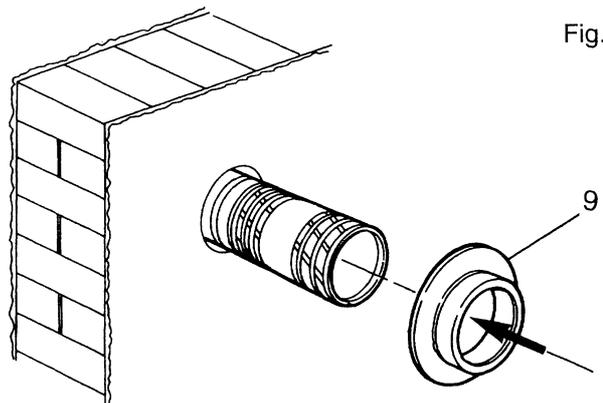

Fig. 37
**5.7.10 IMPORTANT:** Terminal rubber must be fitted (Fig. 37).